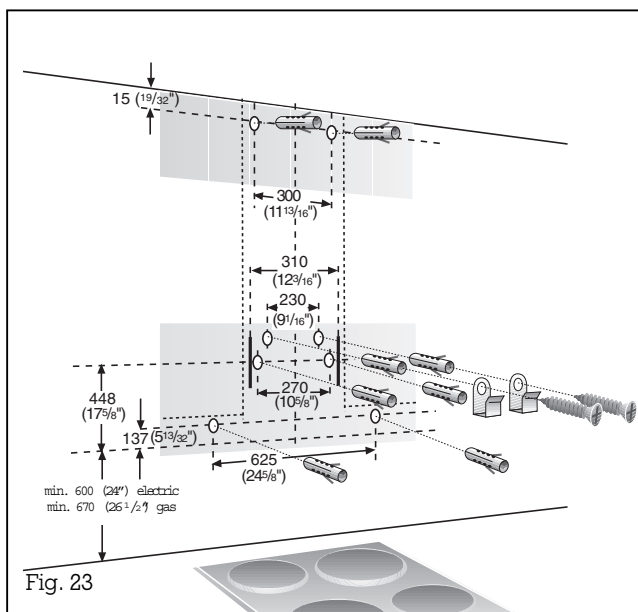

Fig. 23
- With the aid of the drilling template, mark the positions of the screws on the wall. Mark the contour of the hook-in area. This will make it easier to hook in the hood (Fig. 23).